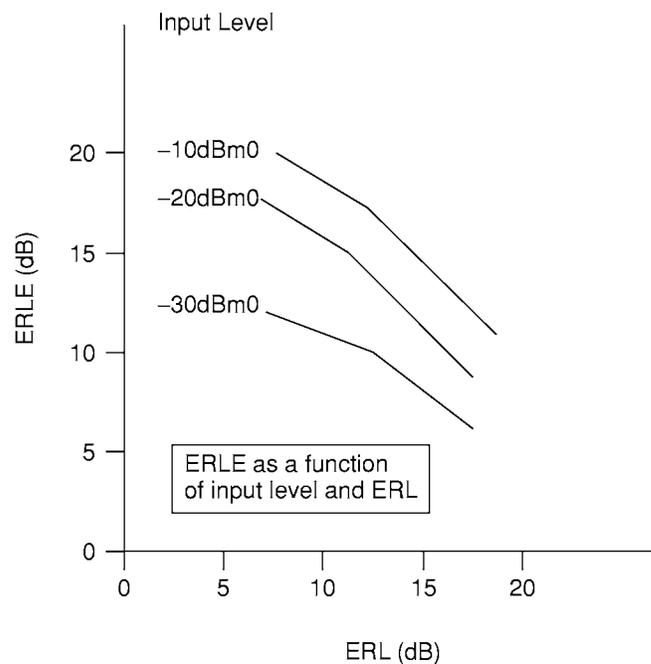

Figure 6-1 ERL and ERLE During Doubletalk
- For additional ERLE performance information, see Figure 6-1 (shows ERLE with 32ms end path delay; ERLE is approximately 2dB lower with 64ms end path delay)